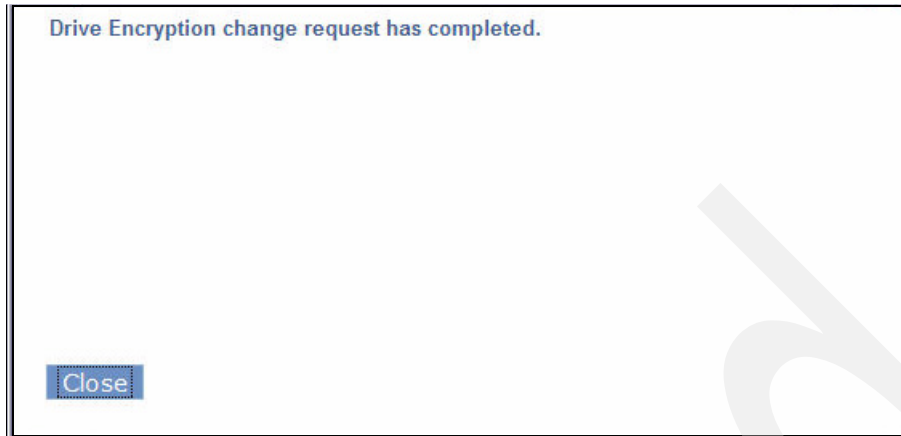

Figure 7-31 IBM UltraScalable Specialist - Success window
- A new progress window about modification of the encryption method is opened. Await its completion as indicated by the message, Drive Encryption change request has completed, and select **Close** for closing the “Success window” shown in Figure 7-31.